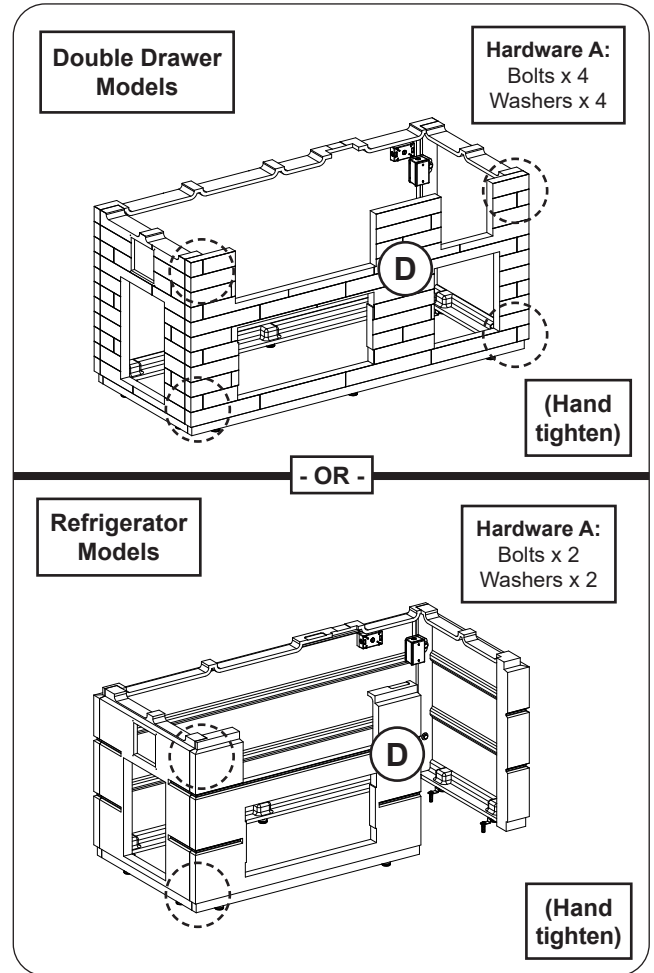

Fig. 9-1 Assemble front wall
**Double drawer models:** Orient the front wall (D) and repeat the hardware installation process (hardware kit A). Hand tighten only. See Fig. 9-1.
**Refrigerator models:** Orient the front wall (D) and repeat the hardware installation process to fasten it to the left side wall. See Fig. 9-1.